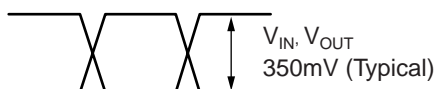

Figure 1c. Single-Ended Swing
8. See Figures 1c and 1d for  $V_{DIFF}$  definition.
12. See Figure 1c.